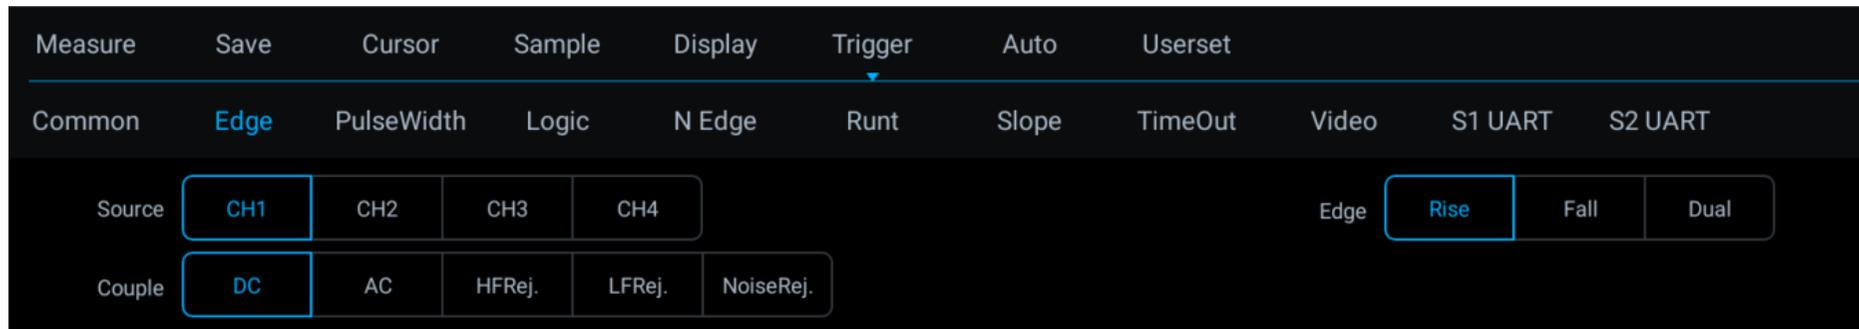

Figure 5-12 Edge Trigger Setting Menu
- 1) Tap “Trigger” on the main menu to open the trigger menu, select edge trigger in the trigger type, and set edge trigger as follows, as shown in Figure 5-12: